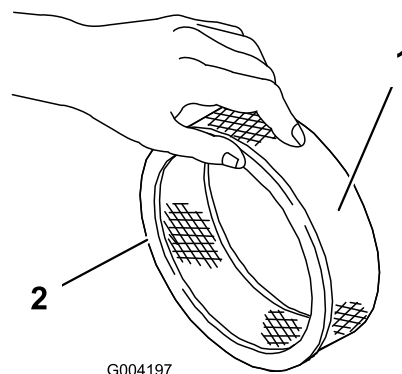

Figure 41
5. Inspect the paper filter for tears, an oily film, and damage to the rubber seal (Figure 41).
1. Carefully slide the foam pre-filter onto the paper filter (Figure 41).